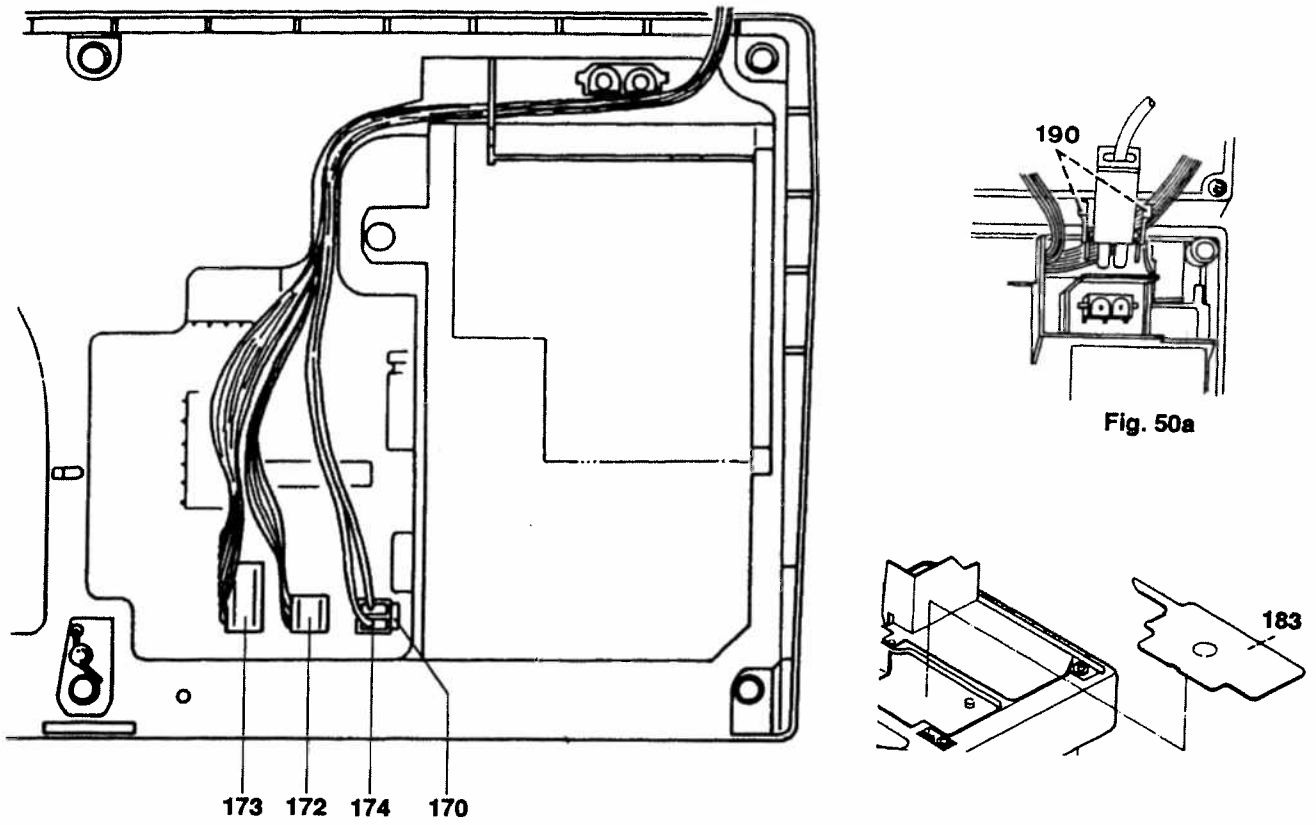

Fig. 50
- Press catch 170 by just 1 to 2 mm to the right and disconnect plug 174 with the two-connection cable (fig. 50).
- Connect the two plugs 172 and 173 to the board (fig. 50).